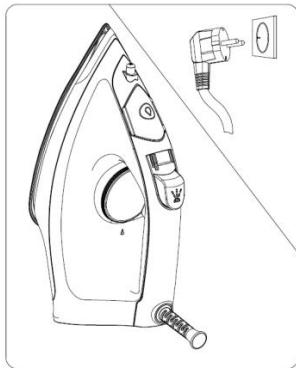

Fig.3
3. Connect the appliance with power source (see Fig.3) and select the appropriate temperature according to the material of the clothes to be ironed (see Fig.4). Refer to the sections of "**IRONING TIPS**" and "**ADDITIONAL TABLE**" when selecting the temperature. The indicator will light up, indicating that the iron is preheating. And the indicator will illuminate solidly during preheating. After the preheating is completed, the indicator will turn off and the iron is ready for using.